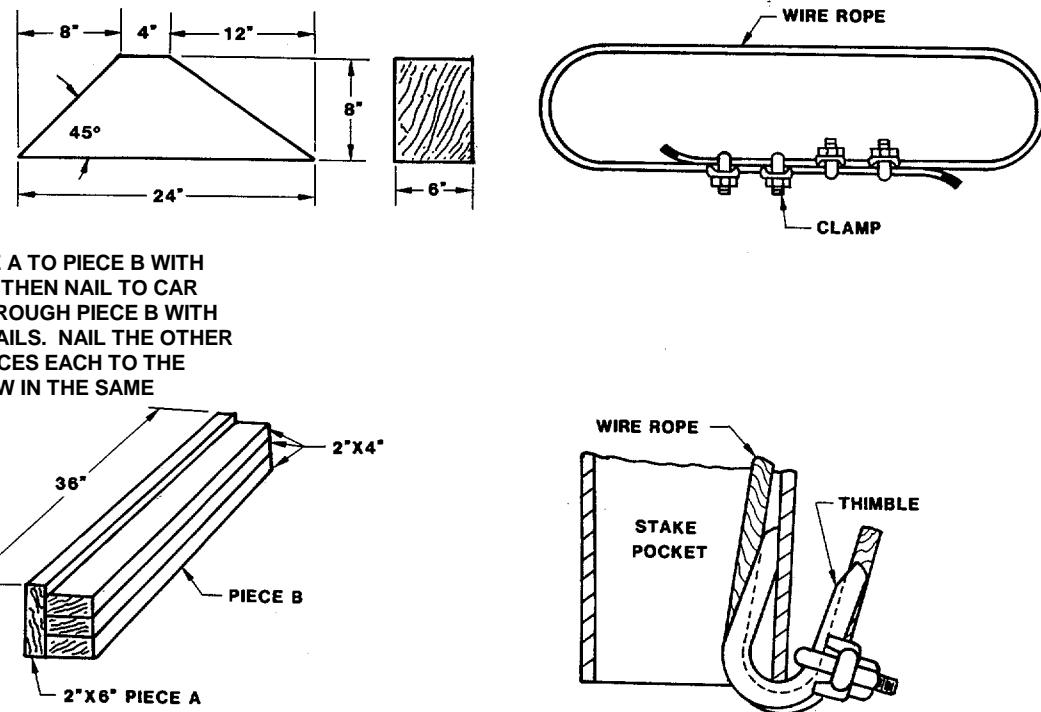

Figure 7-3. Blocking, bracing and tiedown material for standard flatcar.
- (1) Step 1. Fabricate eight wheel blocks in accordance with block pattern 16 in figure 7-3. Locate the 45-degree end of the blocks against the front and rear of each wheel. Nail the heel of blocks to the railcar floor with three 40d nails. Toenail ends touching the tires to the railcar floor with two 40d nails.
(2) Step 2. Fabricate four tire sidewall blocks in accordance with blocking pattern 89 in figure 7-3. Place cushioning material between tire and sidewall block and between railcar floor and sidewall block. Follow the instruction in figure 7-3 for nailing sidewall blocks to railcar.
(2) *Step 2.* Install wire rope tiedowns to tiedown shackles and to the stake pockets. Use metal filler or thimbles sufficient to provide a suitable radius to protect the wire rope at the stake pockets and at the vehicle tiedown shackles. Use clamp to prevent dislodgement, as shown in figure 7-3. Install cable clamps as shown in figure 7-3. Manually tighten wire rope U-bolt clamp nuts to 65 foot-pounds. Make wire rope as tight as possible. Once installed, remove come-along. Repeat steps 1 and 2 for the remaining three corners.